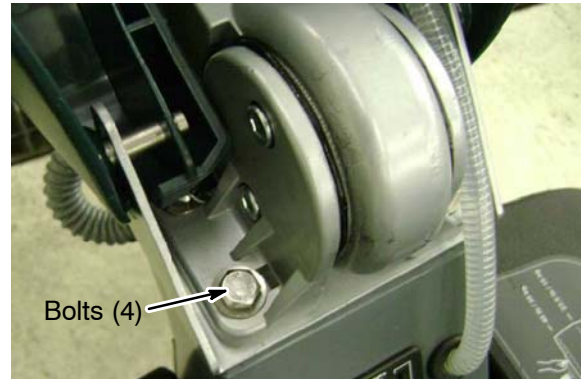

Fig. 3
3. Remove the 4 bolts that secure the handle pivot brackets to the machine (Figure 3).